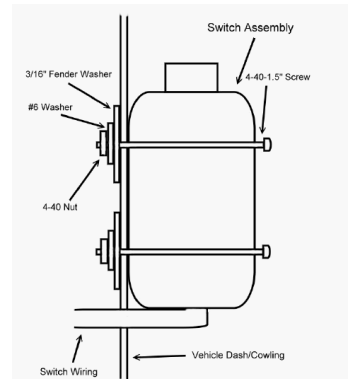

Figure 1.
2. Open the hood and find the recommended contactor location shown in **Figure 1**. Affix the contactor to recommended location. *
13. Finish routing longest wires up along frame and through outlet noted in Figures 1 (pg1) and 12. Do **NOT** connect wires to contactor at this time.
15. Route wires from winch motor end to the contactor location (**Figure 1 pg1**) by running them in front of the radiator. Do **NOT** connect wires to contactor at this time.